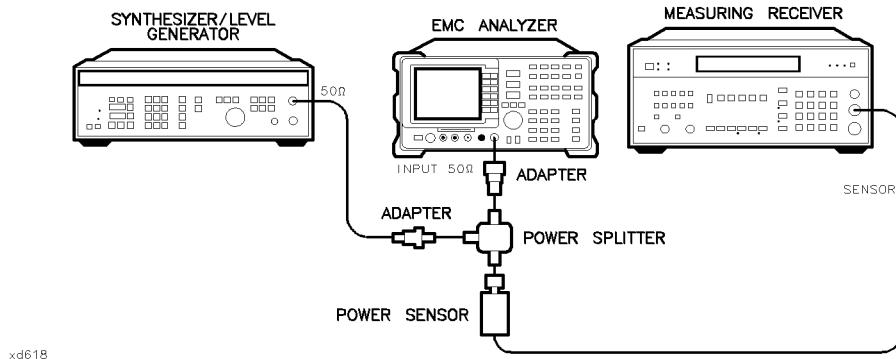

Figure 2-30. Frequency Response Test Setup, <50 MHz, HP 8595EM
- Connect the equipment as shown if Figure 2-30, with the power sensor connected to power splitter.